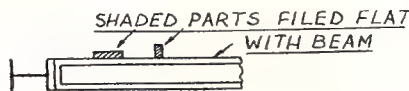

FIG 2
4. Figure 2 shows the bottom of a truck with the springs, axle box and brake rigging assemblies omitted for clarity. The parts projecting above the main beam, shown shaded, are the original coupler position and coupler stops. It is these parts which, protruding above the beam, have to be filed off and no more. When filing off these projections keep the file as flat as possible or the newly fitted couplers will not sit flat.